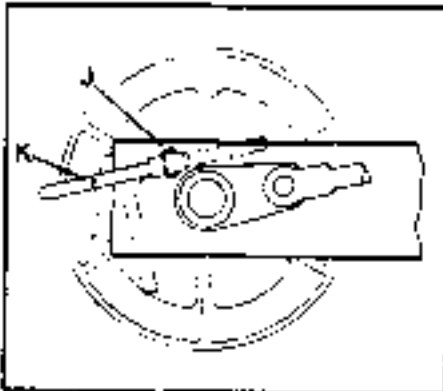

Fig. 4A-11
7. Raise boom up allowing the jib sheave to roll on the ground until the jib is past vertical. Lower the boom, slowly pushing the jib out in front of the fly. Lower the boom until the jib is in line with the fly. (See Fig. 4A-13).